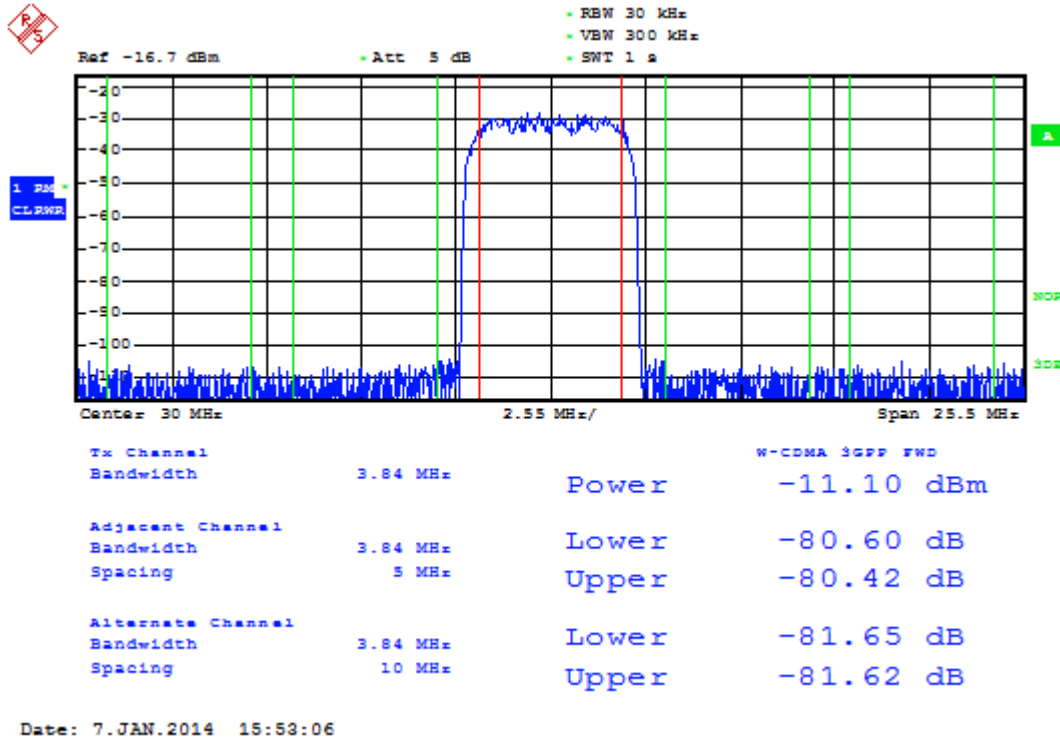

Figure 9. Spectrum Analyzer Example
- You should now see a WCDMA signal centered at 30 MHz on the spectrum analyzer, as shown in Figure 9.